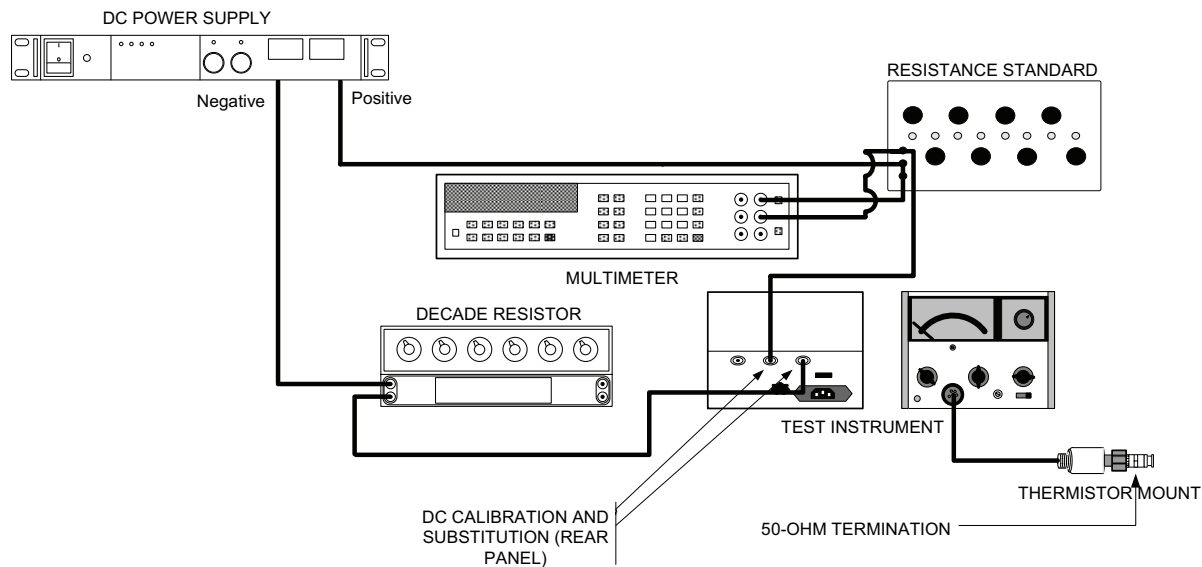

Figure 3. Range and tracking check without power meter calibrator.
(1) Connect the equipment as shown in figure 3.